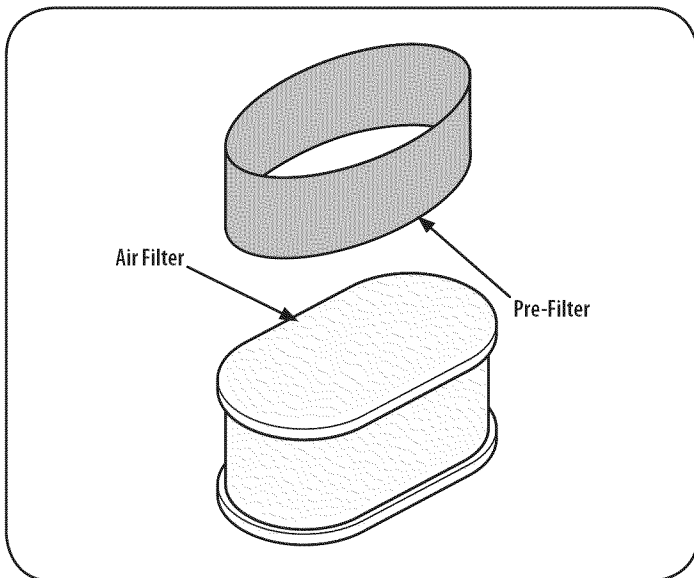

Figure 18
3. Remove the foam pre-filter from around the paper air filter. See Figure 18. Replace paper element when dirty or damaged. Clean foam element or replace when damaged.